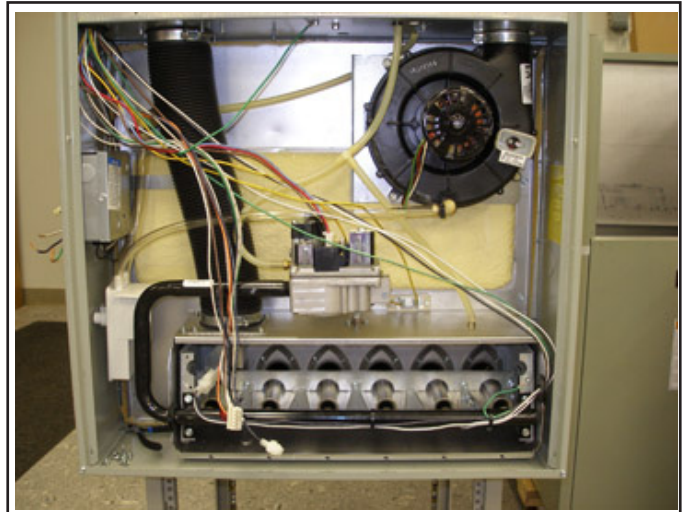

Figure 18
1. Remove burner box cover. See Figure 18.